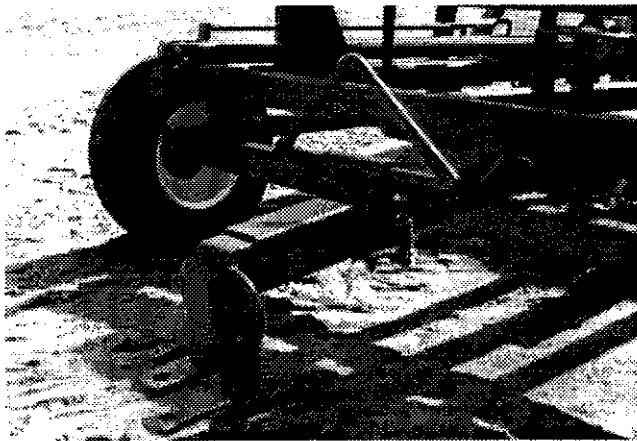

Figure 19
- 4) Adjust tongue to its most inward position. If there is a risk of interference with the front of the tractor or with uneven ground, it is recommended to remove it. (Fig. 19)